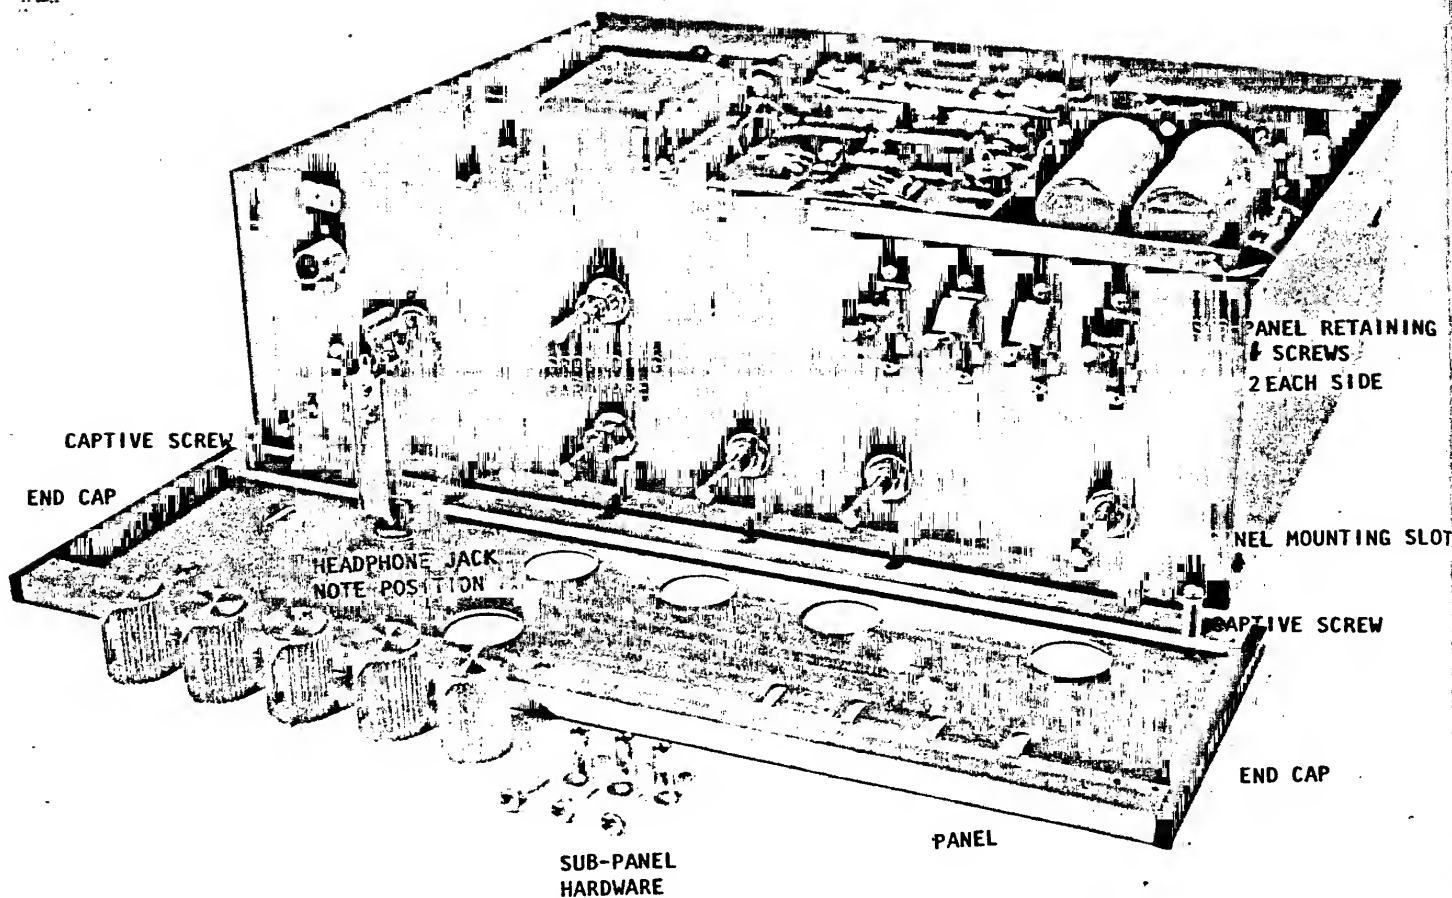

Figure 4-2 FRONT PANEL
Step 6. Place a strip of cardboard or wooden stick under the preamplifier/panel assembly to prevent circuit components from touching the chassis. The unit may be plugged in for testing. Component locations are shown in figures 4-2, 4-3, 4-4.